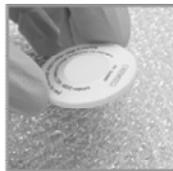

Figure 2
- Hold the sticker from the edges, as shown in Figure 2, and place it on center clean area of the filter's outlet with the reading area (glossy surface) of the sticker facing up.